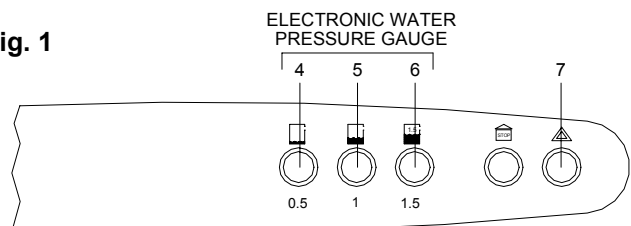

Fig. 2
SELF- DIAGNOSTIC LEGEND (see fig. 2)
- Make sure that 5 and 6 lights are ON (fig.2, page I, pos. 5 and 6); if light no. 4 is ON, it means water deficiency in the system: open the tap on the filling loop and fill the system until a pressure of 1.5 bar has been reached (light no. 6 ON; fig.2) and then **close the tap**.
If boiler locks-out (see fig. 2 page I), indicator no. 7 ON) proceed as follows: